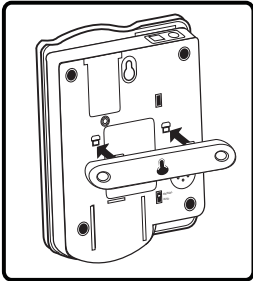

Figure 5
3. Insert the tabs of the mounting bracket into the slots in the back of the phone. Push the mounting bracket in and down firmly until it snaps into place. See Figure 5.